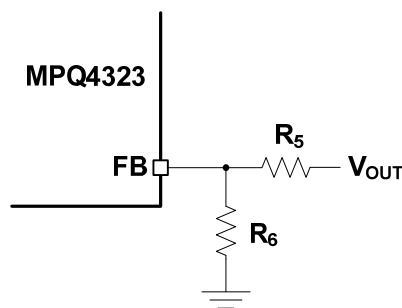

Figure 1: Feedback Divider Network with Adjustable Output
9. Set the output voltage (V_{OUT}) using the external resistor divider (see Figure 1).